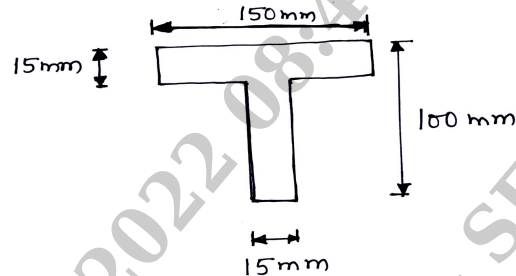

Fig. Q6(b)
- b. The cross section of a beam is a T section (Fig. Q6(b)) 150mm × 100mm × 15mm with 150mm horizontal. Find the maximum intensity of shear stress and sketch the shear stress distribution across the section if it has to resist a shear force of 90kN. **(10 Marks)**